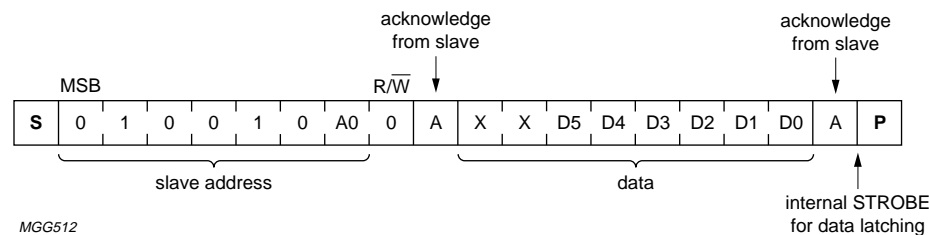

Fig.6 I²C-bus data format.
Address input A0 defines the least significant bit of the I²C-bus address of the device (see Fig.6). The first 6 bits of the address are fixed internally. By tying the A0 of each device to V_{DD} (HIGH) and V_{SS} (LOW) respectively, two different PCD3311C or PCD3312C devices can be individually addressed on the bus.
7.8 I²C-bus data configuration (see Fig.6)